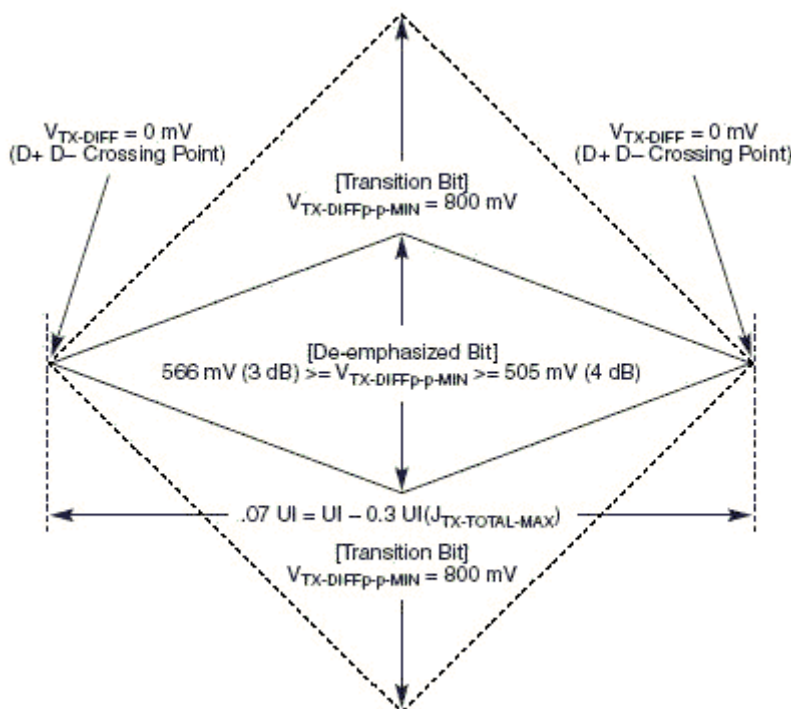
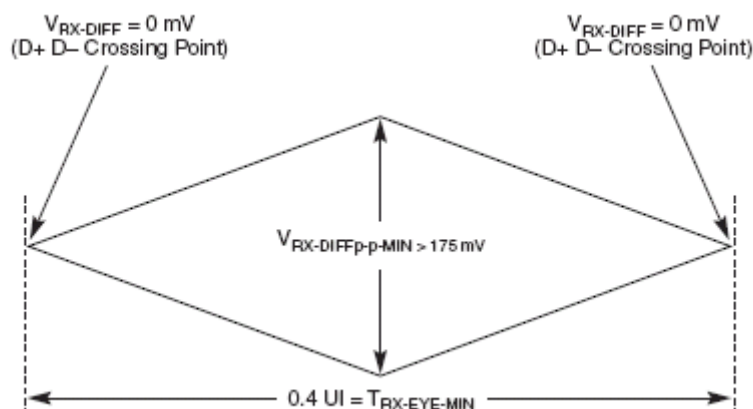
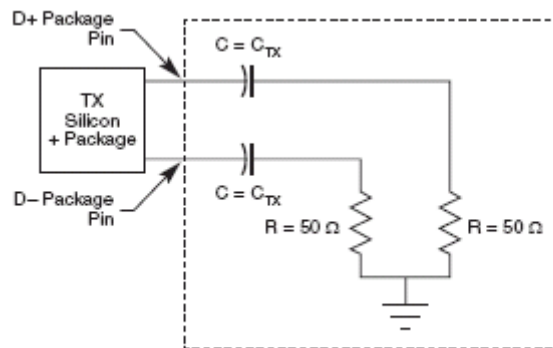

Figure 49. Minimum Transmitter Timing and Voltage Output Compliance Specifications
Figure 50. Minimum Receiver Eye Timing and Voltage Compliance Specification
Figure 51. Compliance Test/Measurement Load
2. Specified at the measurement point into a timing and voltage compliance test load as shown in Figure 51 and measured over any 250 consecutive TX UIs. (Also refer to the transmitter compliance eye diagram shown in Figure 49)
4. The Transmitter input impedance shall result in a differential return loss greater than or equal to 12 dB and a common mode return loss greater than or equal to 6 dB over a frequency range of 50 MHz to 1.25 GHz. This input impedance requirement applies to all valid input levels. The reference impedance for return loss measurements is 50 Ω to ground for both the D+ and D- line (that is, as measured by a Vector Network Analyzer with 50 ohm probes—see Figure 51). Note that the series capacitors C_{TX} is optional for the return loss measurement.
5. Measured between 20-80% at transmitter package pins into a test load as shown in Figure 51 for both V_{TX-D+} and V_{TX-D-} .
The TX eye diagram in Figure 49 is specified using the passive compliance/test measurement load (see Figure 51) in place of any real PCI Express interconnect + RX component.
2. Specified at the measurement point and measured over any 250 consecutive UIs. The test load in Figure 51 should be used as the RX device when taking measurements (also refer to the Receiver compliance eye diagram shown in Figure 50). If the clocks to the RX and TX are not derived from the same reference clock, the TX UI recovered from 3500 consecutive UI must be used as a reference for the eye diagram.
4. The Receiver input impedance shall result in a differential return loss greater than or equal to 15 dB with the D+ line biased to 300 mV and the D- line biased to -300 mV and a common mode return loss greater than or equal to 6 dB (no bias required) over a frequency range of 50 MHz to 1.25 GHz. This input impedance requirement applies to all valid input levels. The reference impedance for return loss measurements for is 50 ohms to ground for both the D+ and D- line (that is, as measured by a Vector Network Analyzer with 50 ohm probes—see Figure 51). Note: that the series capacitors CTX is optional for the return loss measurement.
The RX eye diagram in Figure 50 is specified using the passive compliance/test measurement load (see Figure 51) in place of any real PCI Express RX component.
Note: In general, the minimum Receiver eye diagram measured with the compliance/test measurement load (see Figure 51) will be larger than the minimum Receiver eye diagram measured over a range of systems at the input Receiver of any real PCI Express component. The degraded eye diagram at the input Receiver is due to traces internal to the package as well as silicon parasitic characteristics which cause the real PCI Express component to vary in impedance from the compliance/test measurement load. The input Receiver eye diagram is implementation specific and is not specified. RX component designer should provide additional margin to adequately compensate for the degraded minimum Receiver eye diagram (shown in Figure 50) expected at the input Receiver based on some adequate combination of system simulations and the Return Loss measured looking into the RX package and silicon. The RX eye diagram must be aligned in time using the jitter median to locate the center of the eye diagram.
The reference impedance for return loss measurements is 50. to ground for both the D+ and D- line (that is, as measured by a Vector Network Analyzer with 50. probes—see Figure 51). Note that the series capacitors, CTX, are optional for the return loss measurement.
The AC timing and voltage parameters must be verified at the measurement point, as specified within 0.2 inches of the package pins, into a test/measurement load shown in Figure 51.